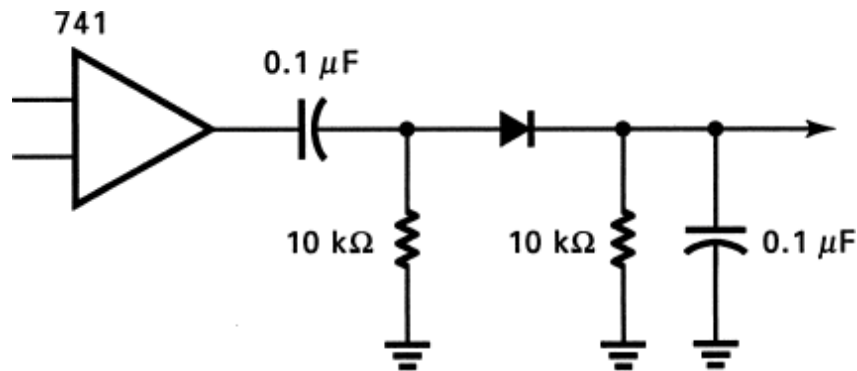
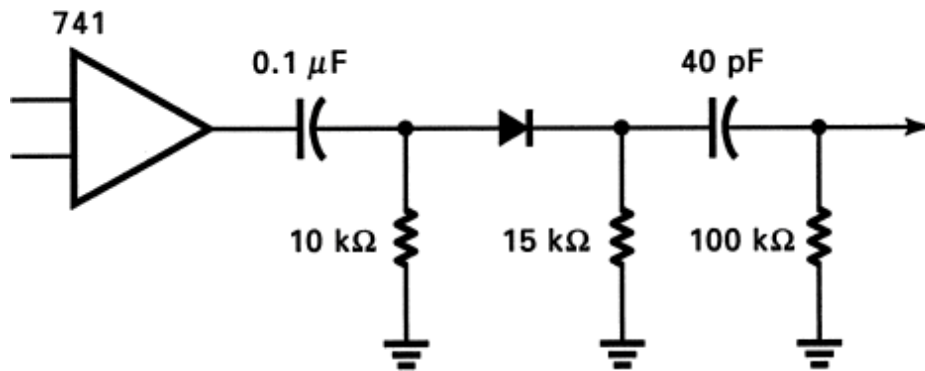

Fig. 4-2 Modifying the diode circuit for mixer operation.
Fig. 4-3 Circuit for question 5.
10. You will now modify the circuit and demonstrate its operation as a mixer. First turn off the power. Remove the 2-mH inductor and the associated $0.01\text{-}\mu\text{F}$ capacitor from the output. Replace them with a $15\text{-k}\Omega$ resistor in parallel with a $0.1\text{-}\mu\text{F}$ capacitor as shown in Fig. 4-2.
4. What is the function of the $0.1\text{-}\mu\text{F}$ capacitor shown in Fig. 4-2?
5. If the circuit shown in Fig. 4-2 is replaced with the one shown in Fig. 4-3, what output signal will you expect to see?